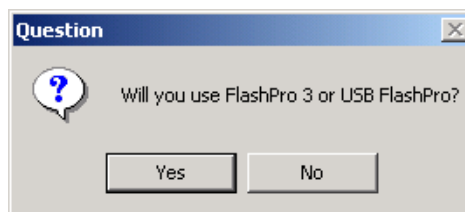

Figure 1-4. Selecting FlashPro3 or USB FlashPro
6. Answer the question, “Will you use FlashPro3 or USB FlashPro?” (see Figure 1-4).